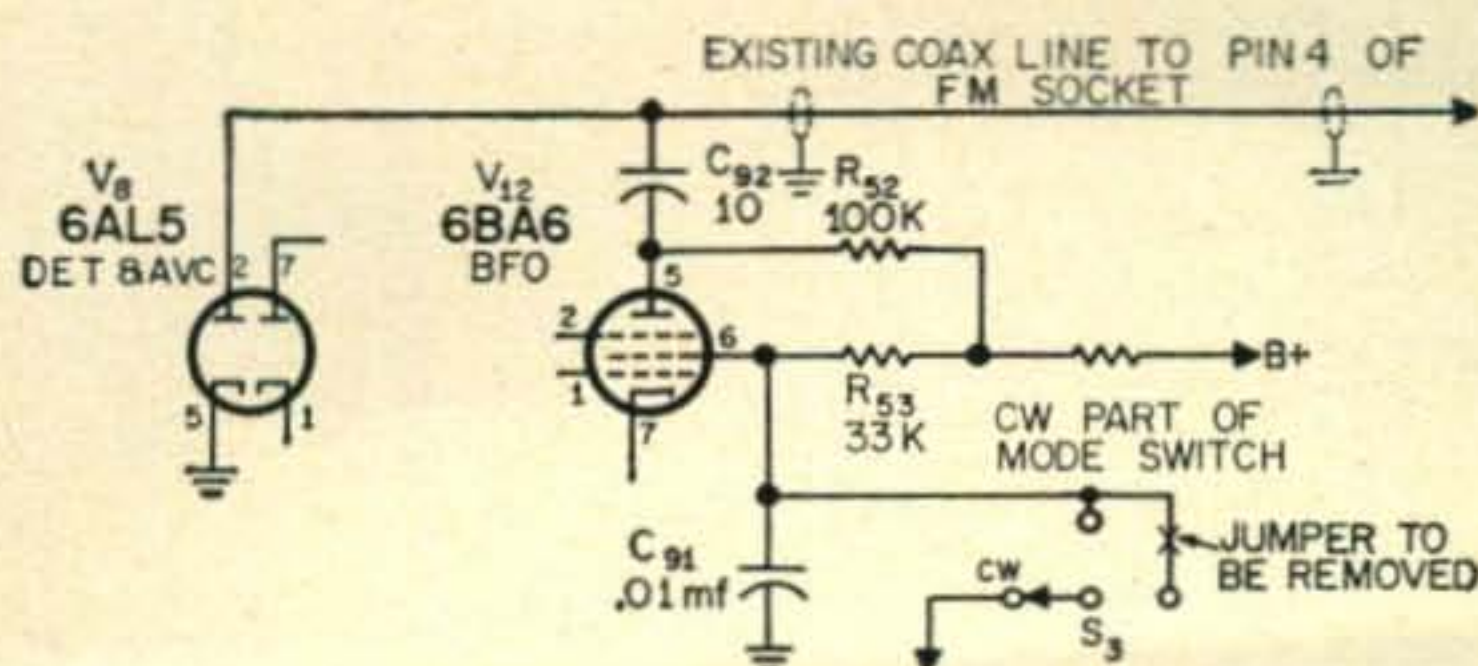

Fig. 2—Circuit modifications in the bfo circuit.
- 2 - Remove the jumper on S_3 , the MODE switch, as shown in fig. 2. It is located at the left of the center wafer when viewed from the front of the cabinet.